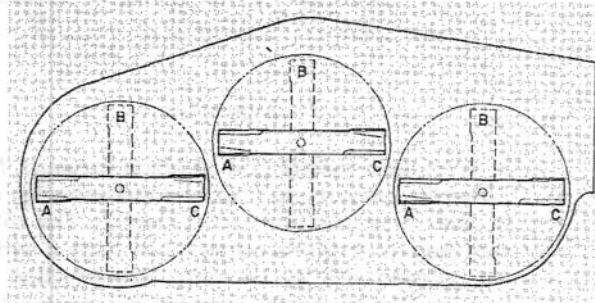
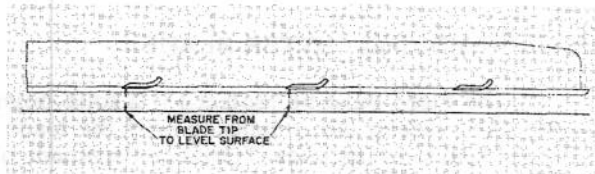

Figure 99
Figure 100
4. Position all three blades in the "A" position (Fig. 99) and measure from level surface to the bottom of the tip end of each blade (Fig. 100).
5. Note measurement attained at "A", rotate blades to "B" position (Fig. 99), measure distance of all blades to level surface and note dimensions (Fig. 100).
6. Rotate blades to "C" position, measure and note distance measured (Fig. 99, 100).